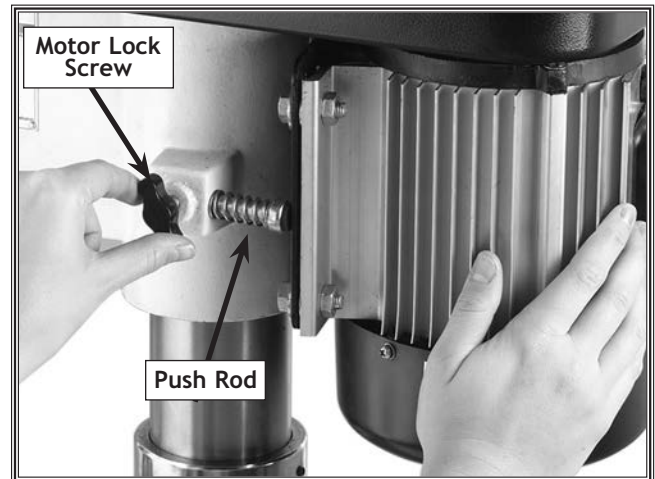

Figure 37. Loosening the lock knob.
3. Loosen the motor lock screw (see Figure 37).
6. Push the motor toward the back of the headstock; the push rod is spring loaded and will follow the motor (see Figure 37).